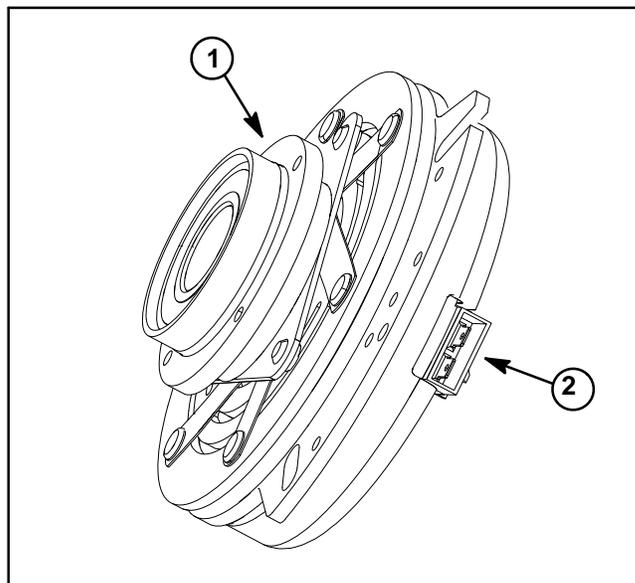

Figure 74
2. Locate clutch on spray pump shaft. Carefully unplug machine wire harness connector from clutch terminals (Fig. 74).
3. For accurate clutch resistance measuring, clutch should be at approximately 70F (21C). Using a multimeter (ohms setting), verify clutch coil resistance between the two (2) terminals of the connector. Clutch coil resistance should be from **2.9 to 3.2 ohms**.